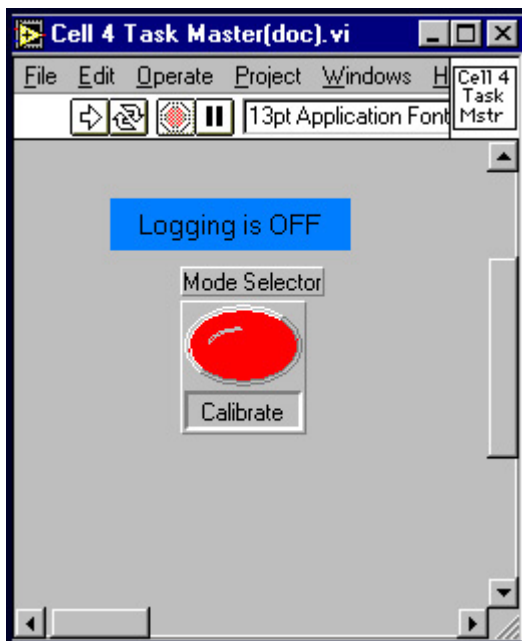
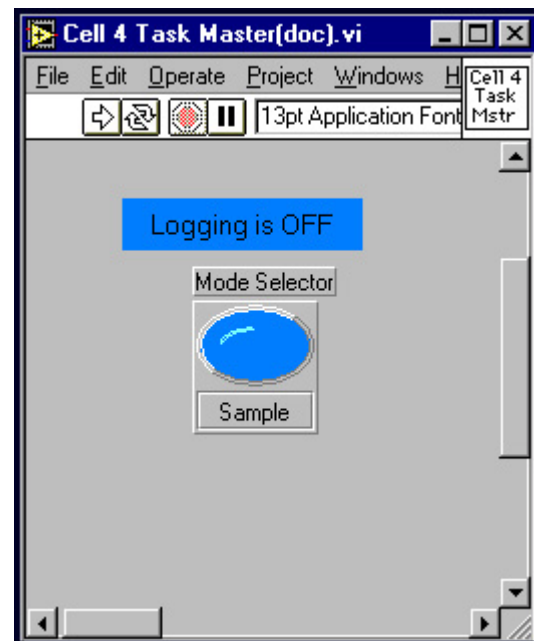

Figure 16a
Figure 16b
- 123 On the “Cell 4 Task Master(doc).vi” screen, use the mouse to select the red “Mode Selector” button (see Figure 16a) to change its color from red to blue. See figure 16b.